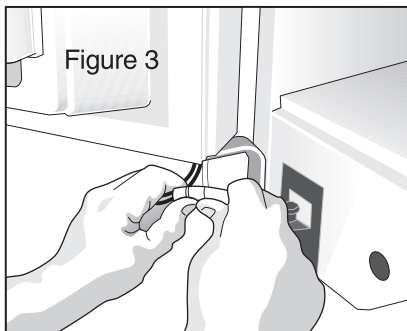

Figure 3
4. To disconnect wiring harness plug connector, place your thumbs on the flat sides of each connector piece. Bend both parts back and forth. Then with a firm grasp, pull the two pieces apart as shown (Figure 3).